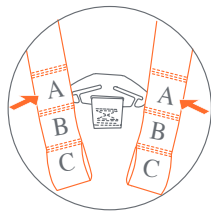

Fig. 33-1
9. Ensure the harness strap ends are fully hooked on the metal plate. Both sides must be threaded in the same position (Fig. 33-1).